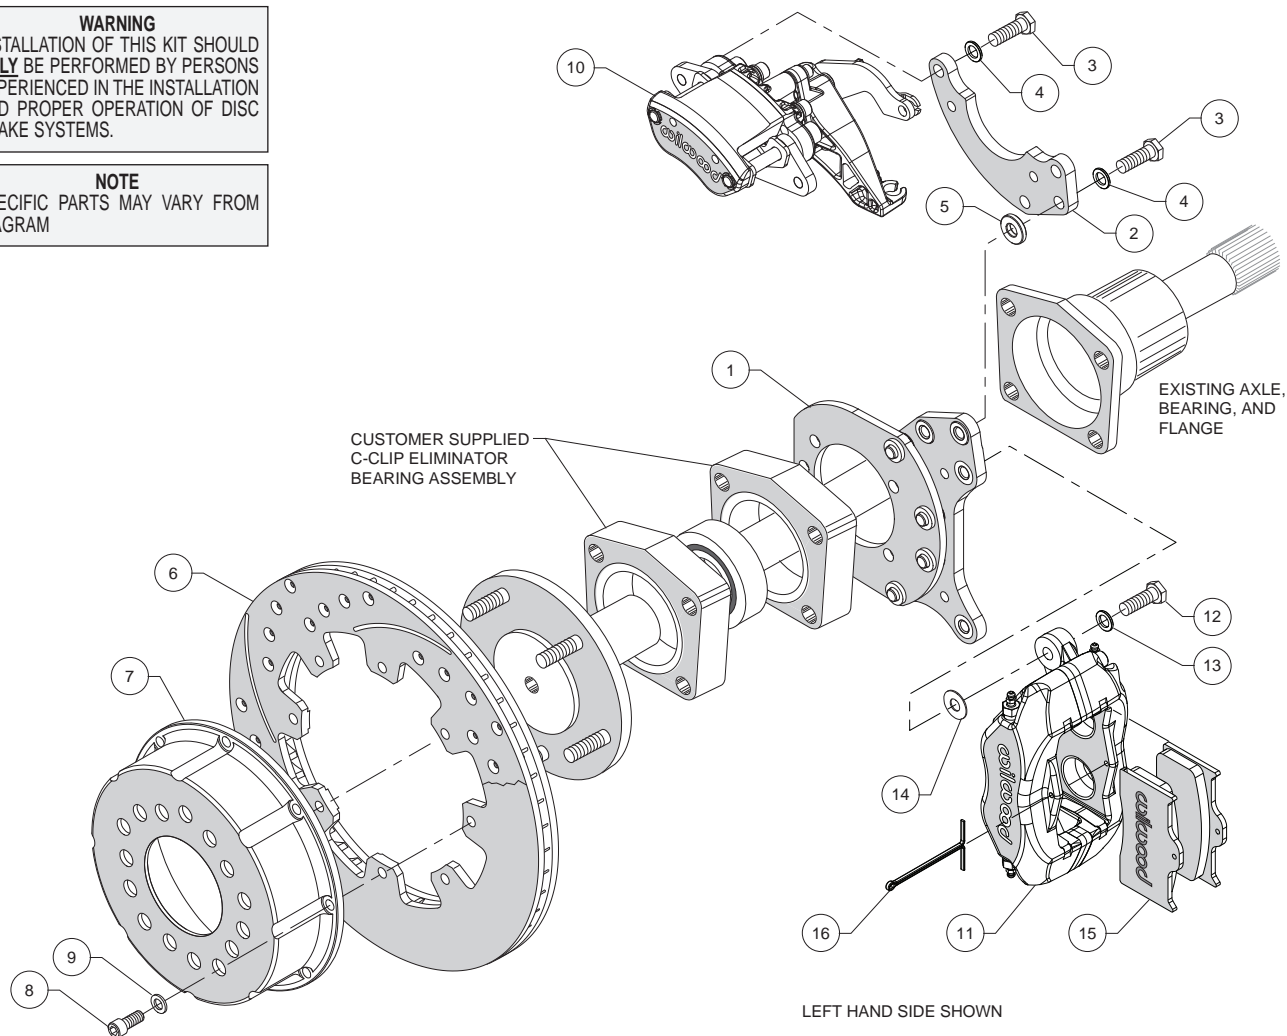
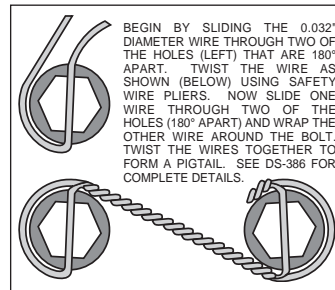
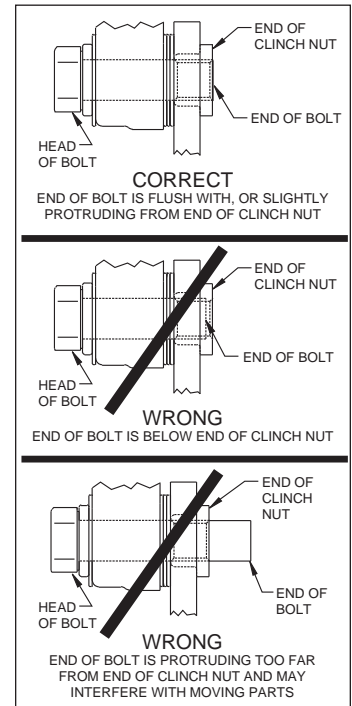

Figure 1. Typical Installation Configuration
Figure 4. Safety Wire Diagram
Figure 5. Clinch Nut Engagement Diagram
Assembly Instructions (numbers in parenthesis refer to the parts list, and Figure 1 on the preceding pages): **CAUTION:** All mounting bolts must fully engage clinch nuts. Be sure to check that all bolts are either flush or protruding through flanged side of clinch nut after shiming, Figure 5.
- Attach the MC4 flat caliper bracket (2) to the axle flange caliper mount bracket (1) using bolts (3), washers (4), and spacer (5) as shown in Figure 1 and Photo 1. Apply red *Loctite*® 271 to the bolt threads and torque to 40 ft-lbs.
- Orient the bracket assembly as shown in Figure 1, and mount to the axle housing flange, along with the C-clip eliminator bearing assembly (customer supplied), using the fasteners included in the bearing kit, Figure 1. Temporarily tighten the mounting bolts. **NOTE:** The bracket assembly must fit squarely against the axle housing flange. Inspect for interference from casting irregularities, machining ridges, burrs, etc. Apply red *Loctite*® 271 to the bolt threads and torque to the C-clip eliminator manufacturer's specification.
- Orient the rotor (6) and the hat (7) as shown in Figure 1 and Photo 2. Attach rotor to hat using bolts (8) and washers (9). Using an alternating sequence, apply red *Loctite*® 271 to the threads, and torque to 180 in-lbs. Bolts **MUST** be safety wired using standard 0.032 inch diameter stainless steel safety wire as shown in Figure 4. Please refer to Wilwood's data sheet DS-386 (available at www.wilwood.com/Pdf/DataSheets/ds386.pdf) for complete safety wire installation instructions.
- Align the correct hole pattern in the hat with the stud pattern on the axle flange and slide into place, Figure 1. **NOTE:** The rotor/hat must fit flush against the axle flange or excessive rotor run out may result. Install three lug nuts (finger tight) to keep the rotor/hat assembly in place while continuing with the installation.
- NOTE:** Please reference the caution statement at the beginning of the assembly instructions. Mount the caliper (11) onto the caliper mounting bracket (1) using bolts (12) and washers (13), as shown in Figure 1. Initially place one .035" thick shim (14) on each bolt between the caliper and the bracket, Photo 3. Temporarily tighten the mounting bolts and view the rotor (6) through the top opening of the caliper. The rotor should be centered in the caliper, Photo 4. If not, adjust by adding or subtracting shims between the bracket and the caliper. Always use the same amount of shims on each of the two mounting bolts. **NOTE:** The end of each bolt must be flush with or slightly protruding from the head of the clinch nut, as shown in Figure 5. If necessary place spare shims between washer (13) and caliper mounting ear to achieve the proper clinch nut engagement. Once the caliper alignment and clinch nut engagement are correct, remove the bolts one at a time, apply red *Loctite*® 271 to bolt threads, and torque to 40 ft-lb.
- Install the disc brake pads (15) into the caliper, with the friction material facing the rotor (6), Photo 5, and secure in place using cotter pin (16), Photo 6.
- Mount the parking brake caliper (10) onto the caliper mounting flat bracket (2) using bolts (3) and washers (4), as shown in Figure 1 and Photo 7. Apply red *Loctite*® 271 to bolt threads, and torque to 40 ft-lb.